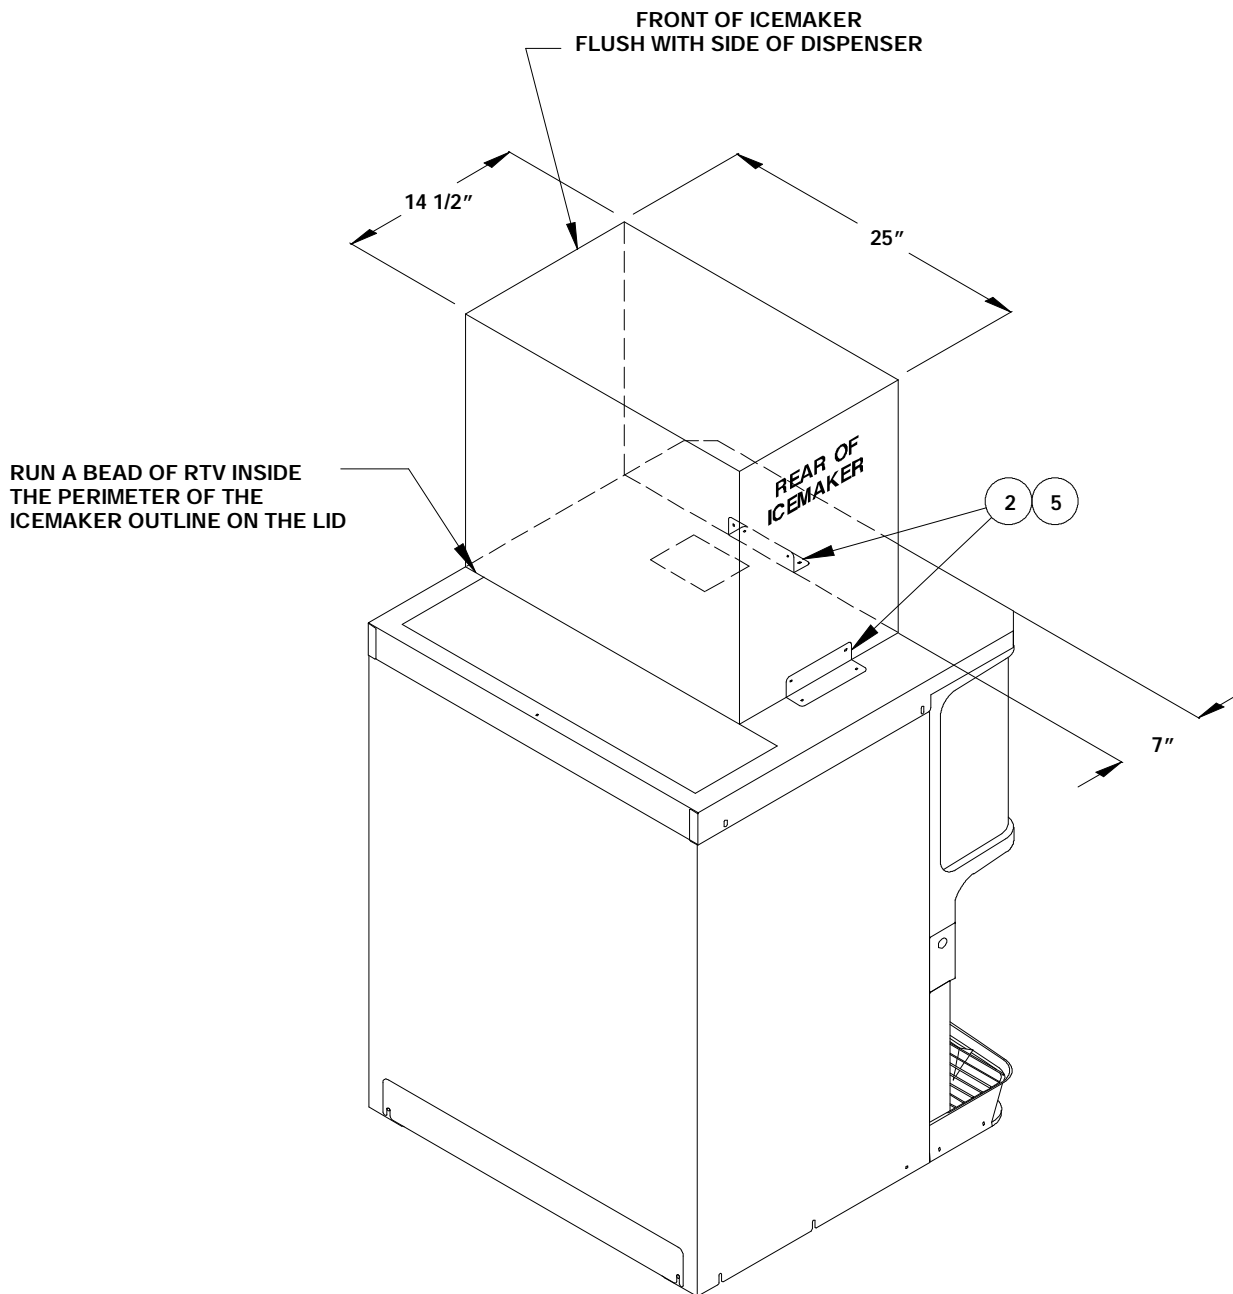

FIGURE 2.
7. Seal the icemaker to the Dispenser lid as follows (see Figure 2):
- B. Set the icemaker onto the lid and position it as shown in Figure 2.
8. Install the icemaker mounting brackets (item 2) as shown in Figure 2. Using the brackets as a template, drill .136 diameter (#29 drill size) holes into the icemaker cabinet and the Dispenser lid (item 1). Use care not to drill into any icemaker components (condenser, tubing, etc.). Secure the brackets using the #10 sheet metal screws provided.
10. Secure the manual ice fill cover in position on the lid over the rear hopper access opening with the thumb screw (item 6). Note that the gasket should be compressed to form a seal against the icemaker cabinet with the cover secured in position.